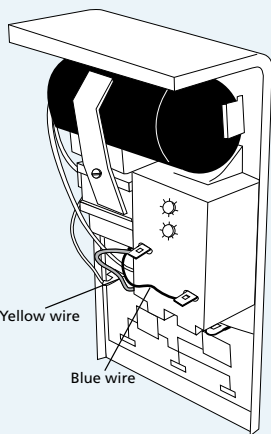

Figure 1: Control box connections
4. Slide the tail of the QD Pumptec under the start capacitor and rock the terminal side down to meet the L1 and L2 terminals (see figure 1).